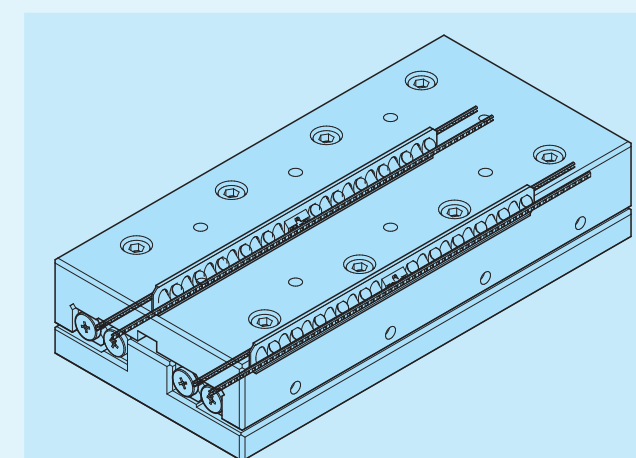

Fig. 23
- Fully stroke the table softly and check that it is within the stroke range used and cylindrical rollers on both ends of the cage do not contact with end screws of the way. If they make contact, take the procedure again. (Refer to Fig. 23)